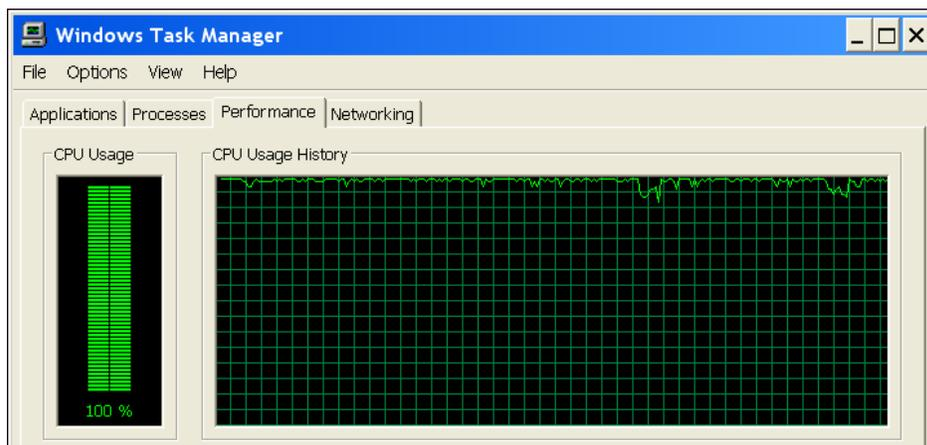

Figure 15. HD Software Decode Without Hardware Acceleration on the CPU
Figures 15 and 16 illustrate the difference in CPU usage between processing high-definition (HD) video on the CPU and on a GeForce 7 series GPU, respectively. In this example, a savings of 9 W is achieved, which can mean up to 15 minutes more viewing time by just using the dedicated video processor.